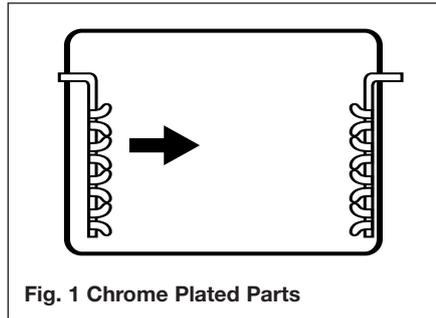

Fig. 1 Chrome Plated Parts
- Note: When positioning the pan support, ensure that the fingers are central to the burners (Fig 1).
Chrome plated parts (Fig 1)
be removed for cleaning. Grasp the runners and slide out of the hanging holes as shown in fig 1.
1. Open access door pull retaining clip upwards (fig. 1).